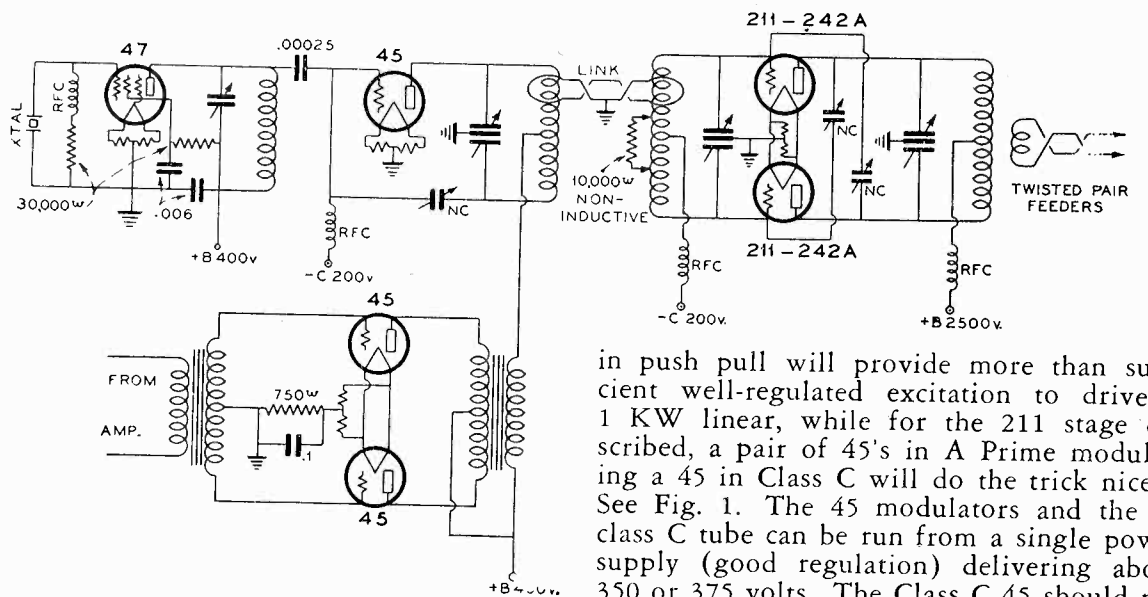

FIG. 2—250-Watt Carrier with Linear Amplifier
Left—The Auxiliary B.F.O. Installed in the K-80. Below—(Fig. 2) The complete oscillator unit before it is installed in the cabinet.
FIG. 2—Rear View of "Linear's" Transmitter. From Top to Bottom: (1) Final Amplifier, Monitor and Collins Coupler. (2) Oscillator and Buffer. (3) Speech and Modulators. (4) Power Supply Units